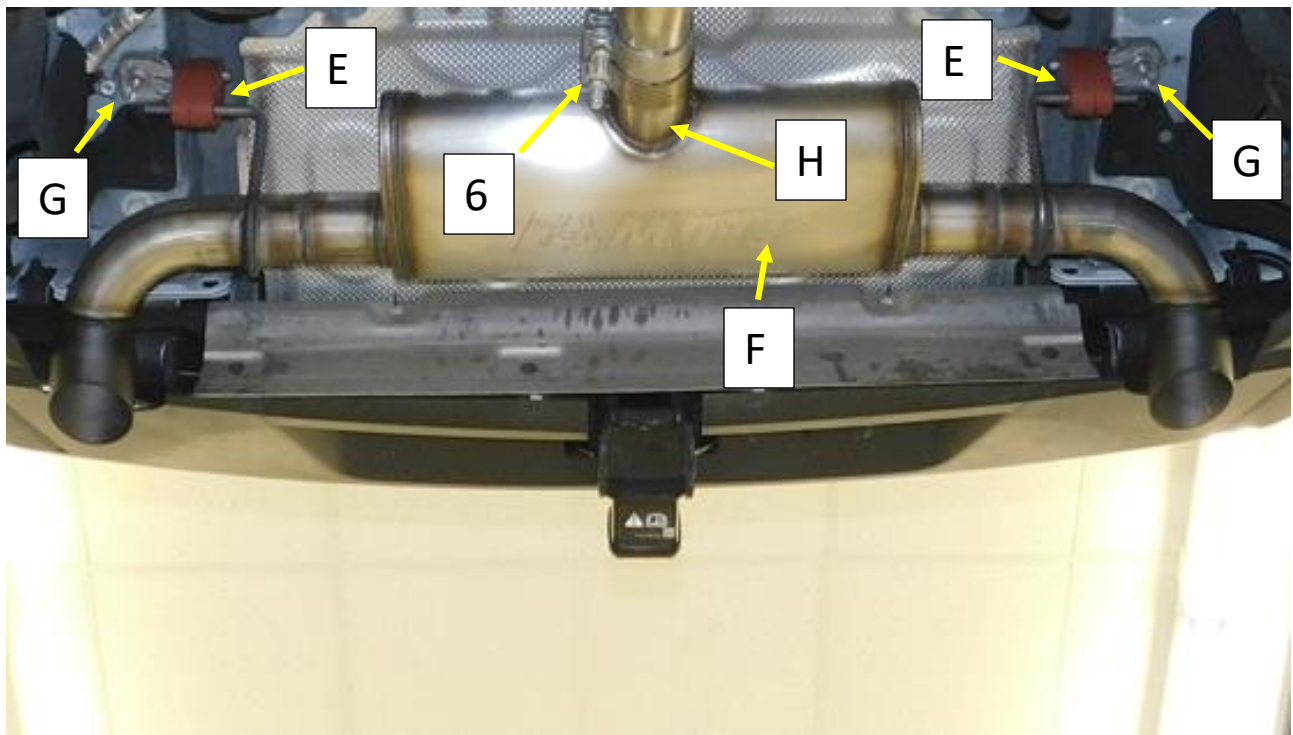

Figure.5
1. Remove the hanger assemblies from the OEM muffler and transfer them to the Flow FX Axle Back exhaust hanger rods (**E**). **Fig.5**
2. Install the FlowFX muffler assembly into the vehicle (**F**) and install the M10 studs (1X each side) into the hanger rod assembly's and tighten (**G**). **Fig.5**
3. Install the 2.5" band Clamp (**6**) (Largest of the three clamps provided) over the muffler inlet pipe (**H**). Bolt on the right-side nut facing the ground. **Fig .5**